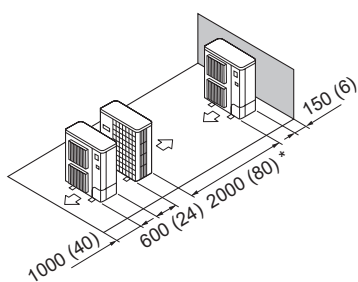

Fig. 2-16
- (5) Single parallel unit arrangement (Fig. 2-16)